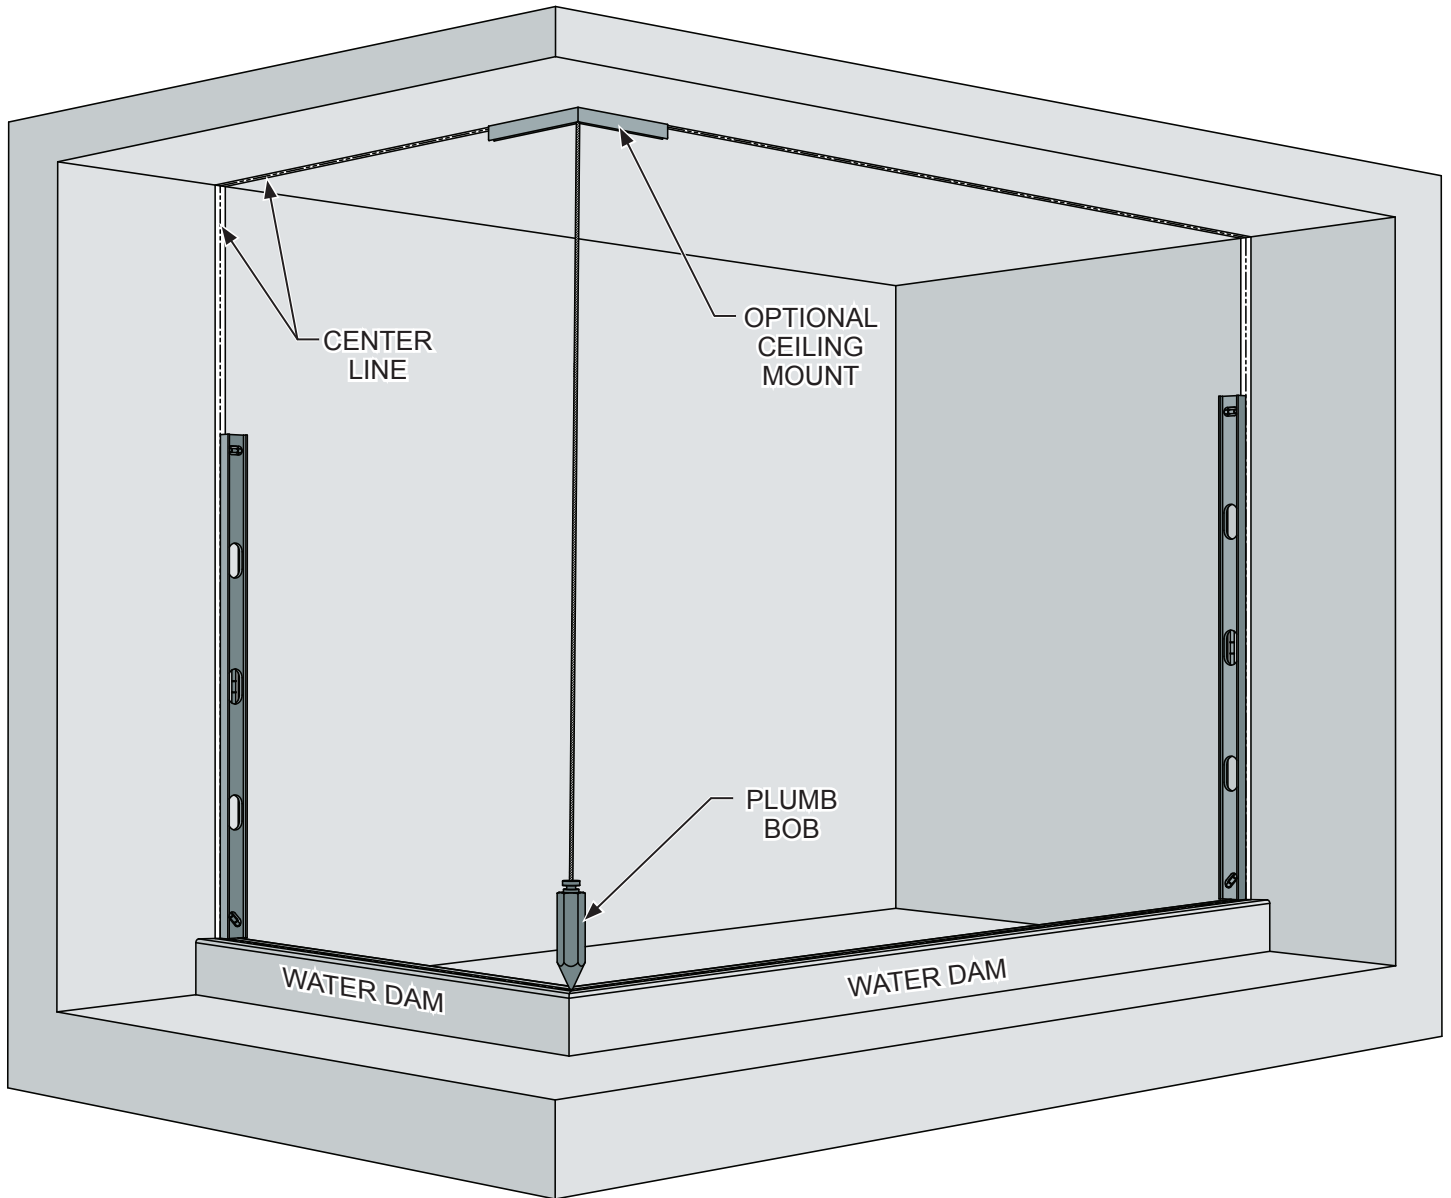

Figure 1
1. Determine the glass center line. Apply masking tape and mark the full length on the top of the water dam. (**Figure 1**)